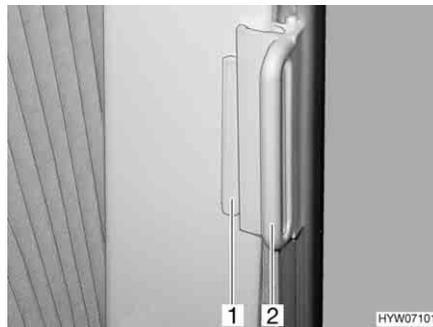

Fig. 103 Roman shade, driver's cabin window
- Grasp the handle (Fig. 103,2) of the Roman shades and draw carefully until the magnetic catch keeps the Roman shades closed.
- Push the handle (Fig. 103,2) onto the cap (Fig. 103,1). The Roman shade is secured.